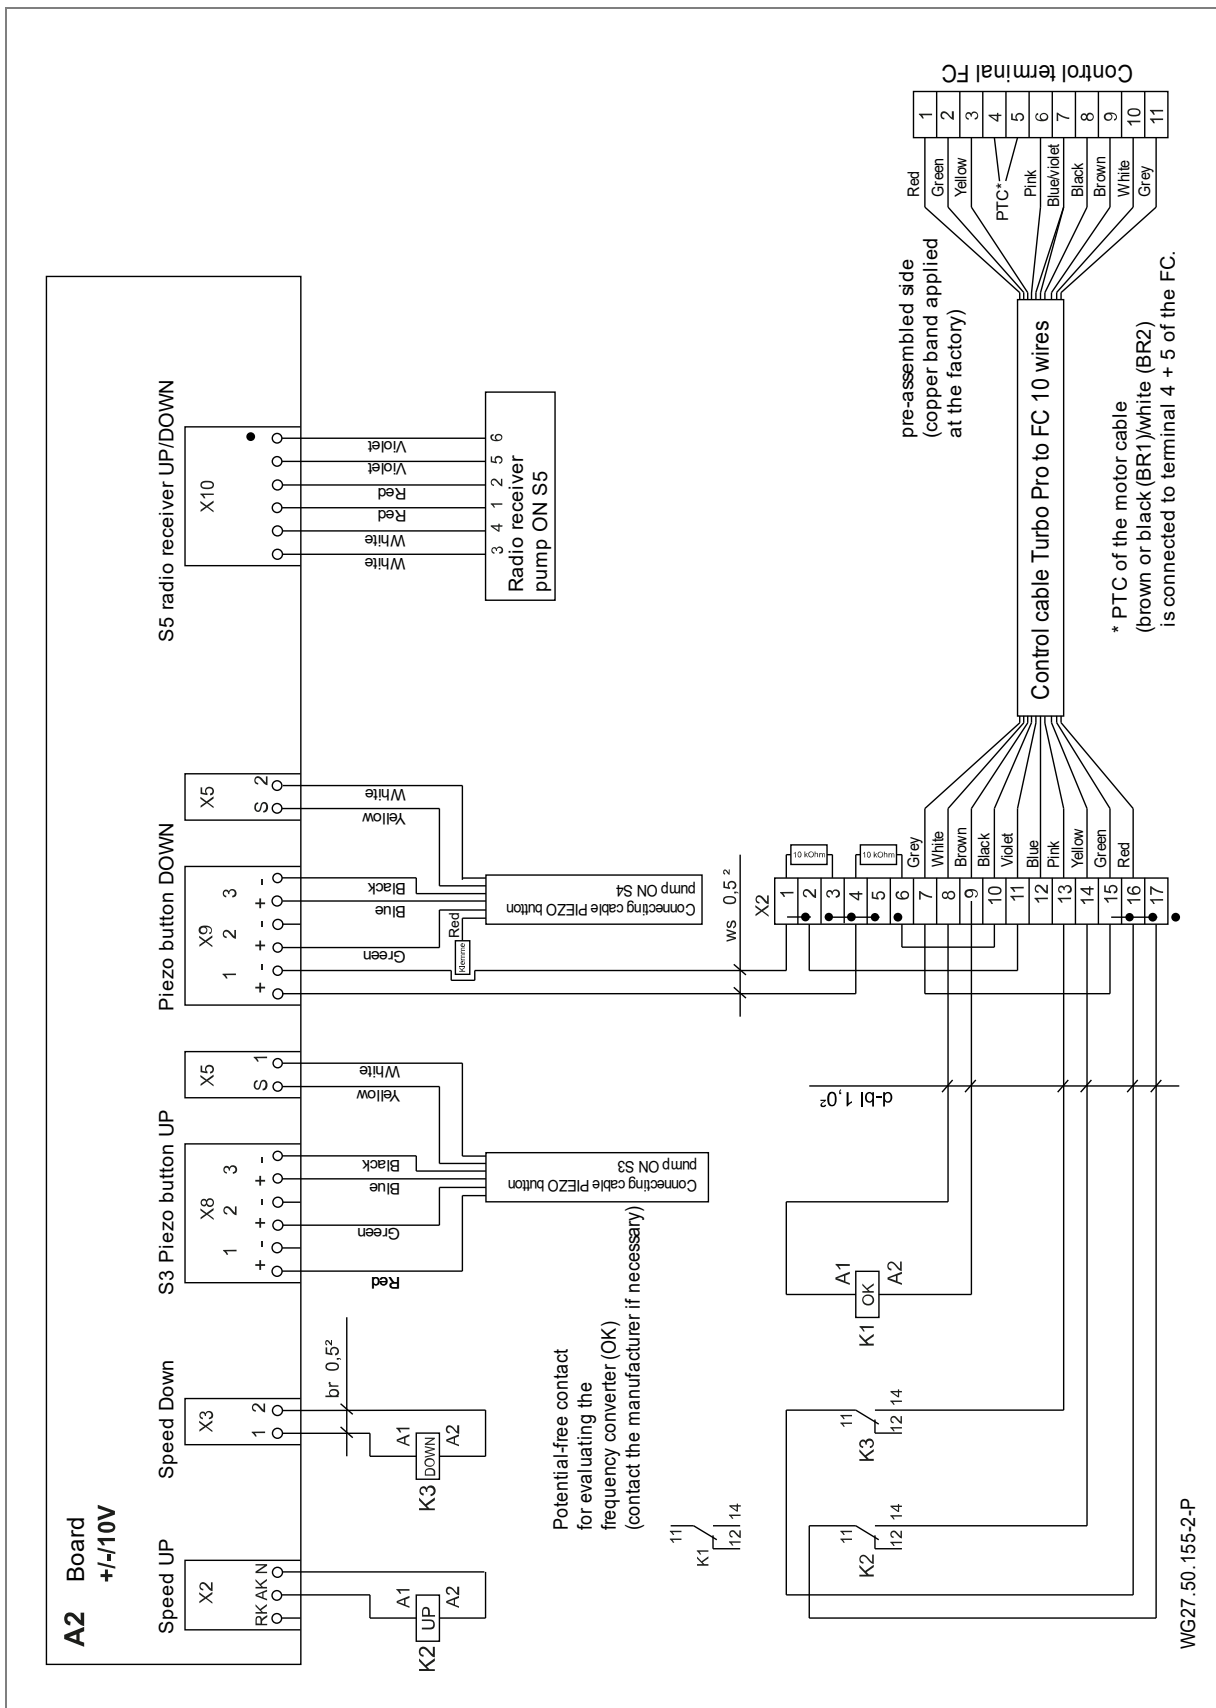

Fig. 20
14. The wires for the PTC (brown or black (BR1)/white (BR2)) must be connected according to the circuit diagram. See "Fig. 20" on page 25